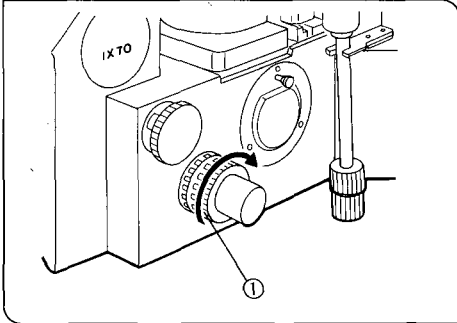

Fig. 19
(Figs. 19, 20)
1. Turn the coarse adjustment knob ① in the direction of the arrow to lower the revolving nosepiece. (Fig. 19)